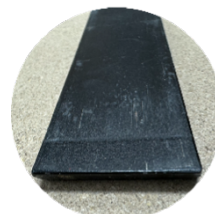

Figure 6:
- ☐ Inspect the Back Plate, also referred to as the Friction Plate or Wear Plate, for signs of excessive coating wear (Figure 5) and any bending along its surface (Figure 6). Please note that some Back Plates may have a blue coating instead of black.